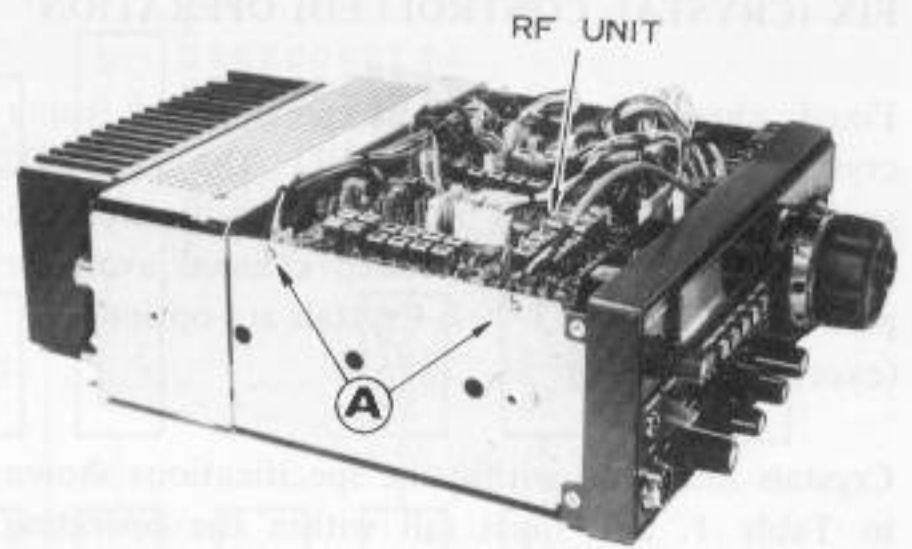

Fig. 2
- (2) Refer to Figure 2, and remove the two screws marked "A" in the drawing. Remove the RF Unit.